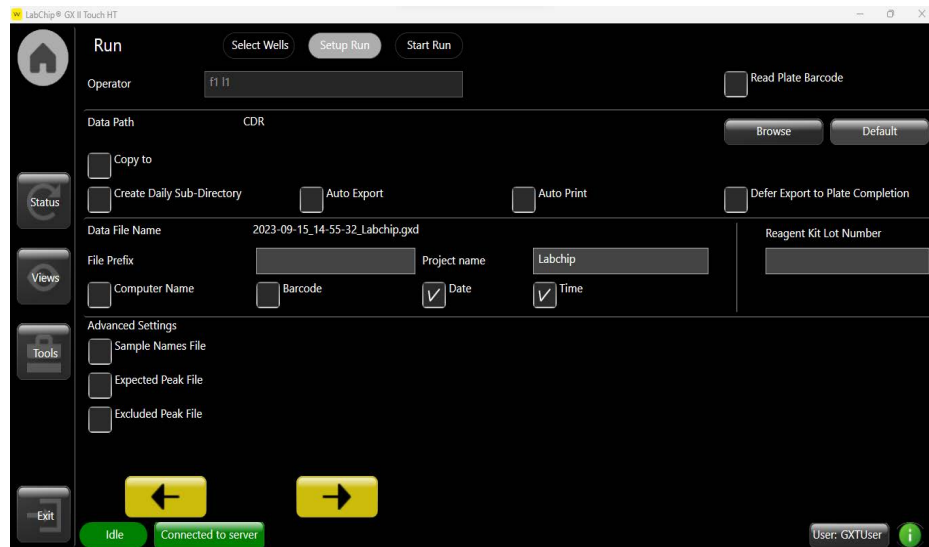

Figure 10. Setup Run Screen
- In the Setup Run screen, select the operator name, the option to read barcode, the destination of the file, the inclusion of sample names, expected peaks, and excluded peaks and the filename convention. Select *Auto Export* to export results tables automatically (Figure 10). Touch the green arrow. The Start Run screen opens.